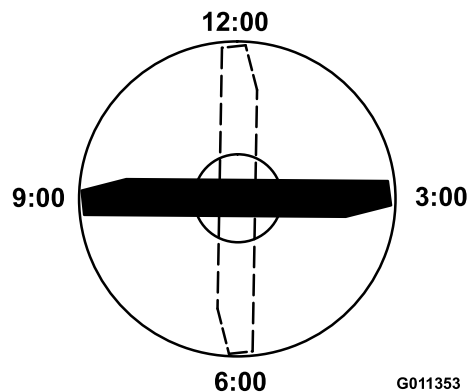

Figure 93
4. Position the cutting edge of the marked end of the blade at 12 o'clock (straight ahead in the direction of mowing) (Figure 93) and measure height from table to cutting edge of blade.
5. Rotate the marked end of the blade to the 3 and 9 o'clock positions (Figure 93) and measure the heights.